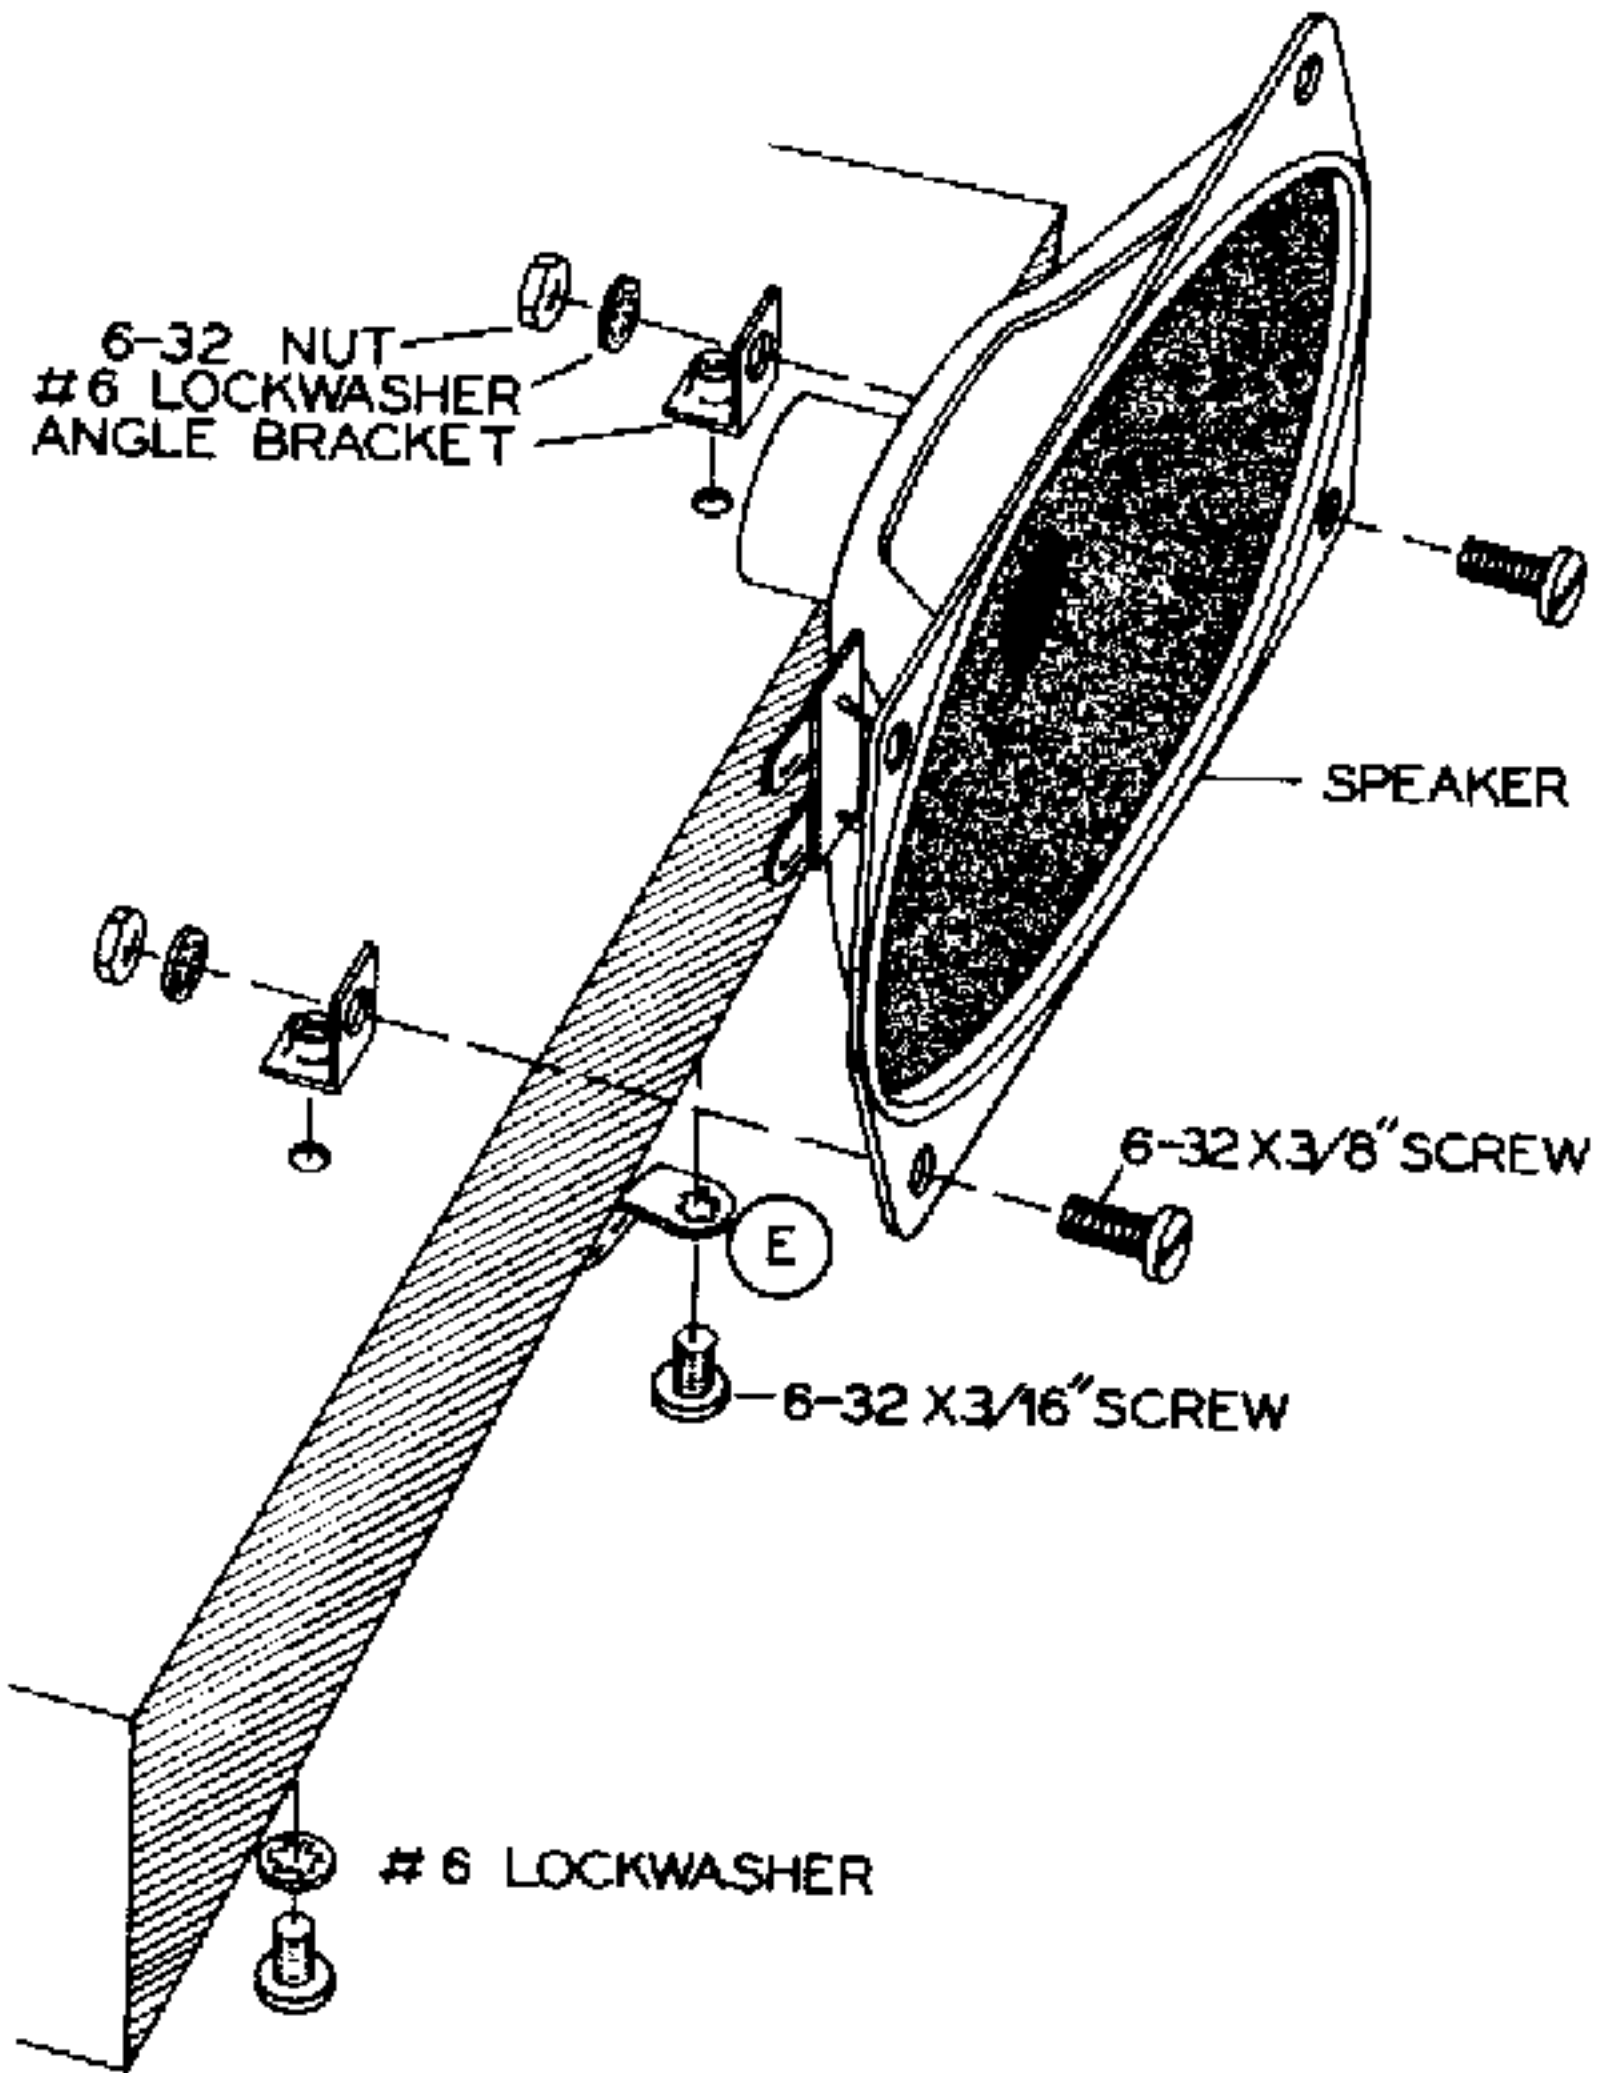

Figure 22
- (✓) Referring to Figure 22, mount the angle brackets on the two speaker mounting holes as shown, using two 6-32 x 3/8" screws, #6 lockwashers, and 6-32 nuts.